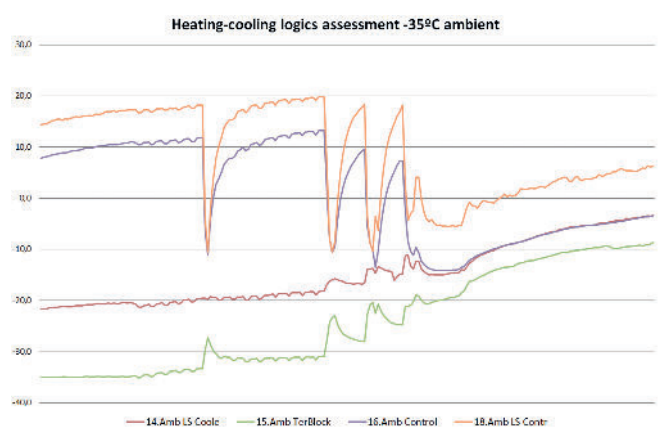

Figure 6: Cold climate test temperatures evolution (peaks due to activation/deactivation logics)
- Cold climate tests: in this test, it is verified that the converter is operative in the desired time under the lowest environmental temperatures and once operating starts the cooling/heating logics are valid. Thus, in addition to temperature, DI/DO are monitored. In addition, the operation under variable cycles of external temperature is assessed. See Figure 6.